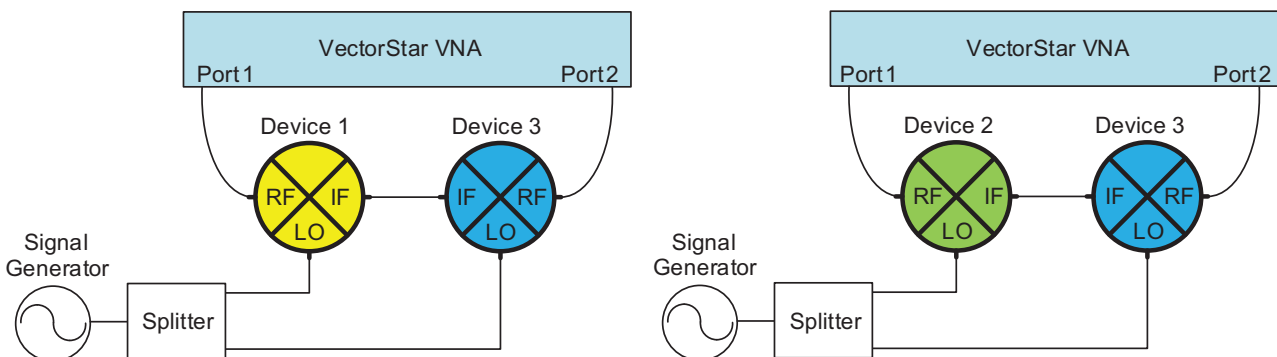

Figure 6: Device Pairs 1-3 and 2-3
4. Now do the same for device pairs 1 & 3 and 2 & 3 as show in Figure 6. (For convenience, name the files “Pair_1-3.S2P” and “Pair_2-3.S2P” respectively or something similar)